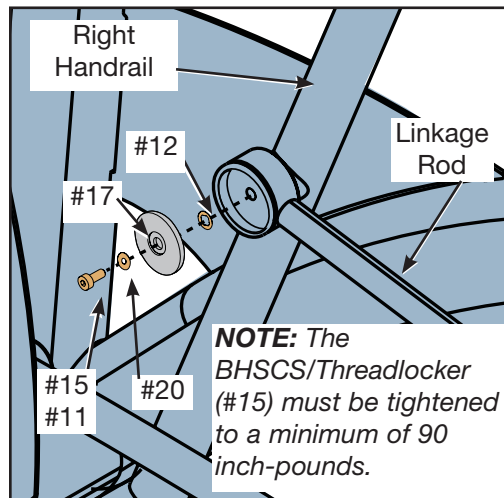

Figure 8
- D. Locate right linkage rod, right handrail, linkage rod cap (#17), flange spacer (#12), screw .250-20 x .75 (#15) and washer .281 x .50 (#20). See Figure 8.
- E. Secure linkage rod to handrail with linkage rod cap (#17), flange spacer (#12), BHSCS .250-20 x .75 (#15) and washer .281 x .50 (#20) as shown in Figure 8 and 9. **NOTE:** The screw (#15) must be tightened to a minimum of 90 inch-pounds.